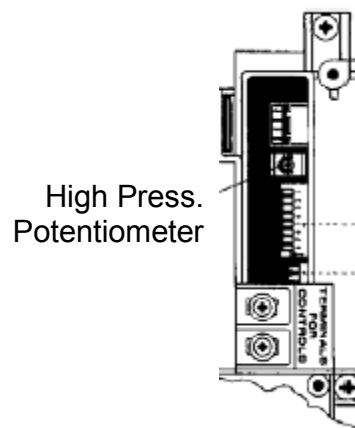

fig. 6
14. Adjust the high pressure potentiometer on the Printed Circuit Board above SW1 (fig. 6) to the pressure shown below. The potentiometer is very sensitive, turn no more than a few degrees at a time; then let the pressure settle down before turning it more.